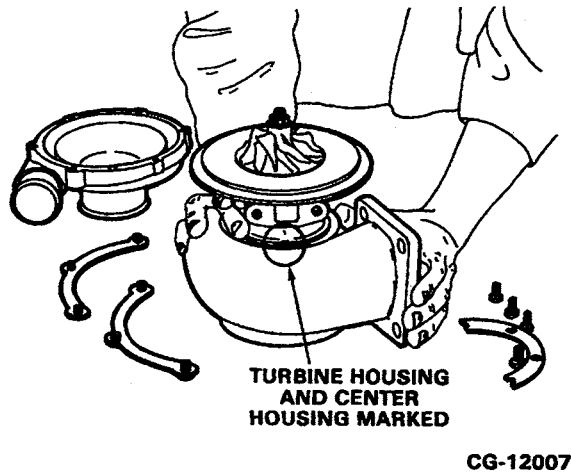

Figure 2.16. Mark Turbine to Center Housing
- a. Mark the turbine housing location to the center housing, to facilitate reassembly. Refer to Figure 2.16.